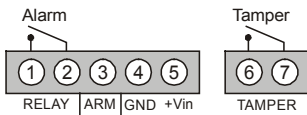

Figure 2: Terminal Blocks
7. **Connect the wires** to the terminal block (as shown in figure 2).